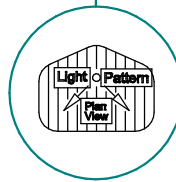
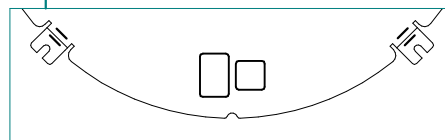

FIG. 7-1B
FIG. 7-1A
2. DETERMINE STREET SIDE AND ALIGN WITH OPTICAL ARRAY DIRECTION ACCORDINGLY. LOOK FOR LIGHT PATTERN LABEL (FIG. 7-1A) OR NOTCH ON OPTICAL ARRAY (FIG. 7-1B) FOR LED DIRECTION.